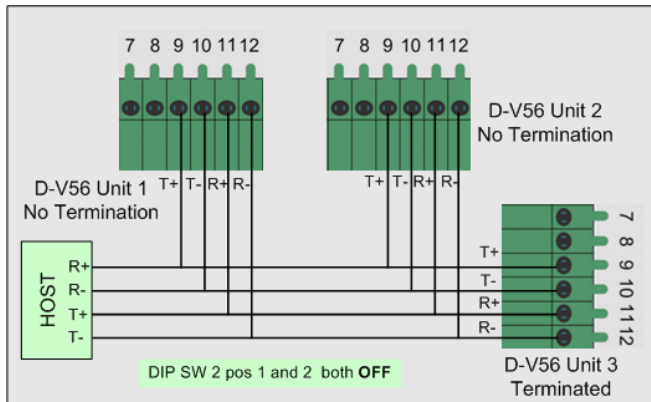

Figure 6 Connecting the RS-485 as Full Duplex
2. Using Figure 2 on page 8 and Figure 6 below as a guide, connect the RS-485 interfaces wires between the units.